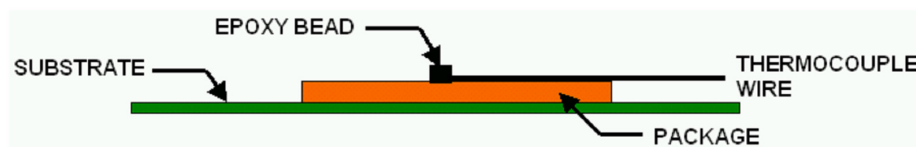

Figure 90. Technique for Measuring T_{case} with a 0° Angle Attachment
- Attach the thermocouple at a 0° angle if there is no interference with the thermocouple attach location or leads (Figure 90). This is the preferred method and is recommended for use with non-enhanced packages.